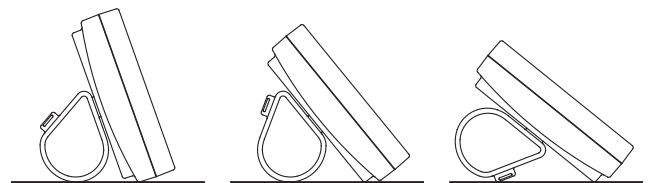

FIG. 36
2. The angle may be adjusted by reorienting the support in the battery cover (See Figure 36).